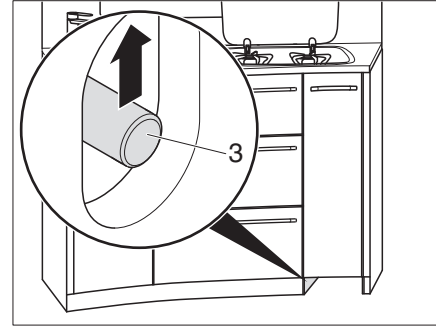

Fig. 119 Unlocking kitchen drawers
- Slide the push rod (Fig. 119,3) upwards.